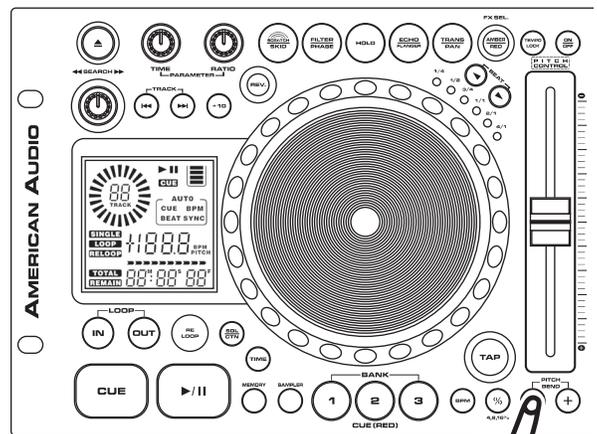

Figure 43
The (+) *PITCH BEND BUTTON* (26) will increase track playback speed and the (-) *PITCH BEND BUTTON* (26) will decrease track playback speed. The extent to which the speed changes is proportionate to the amount of time the button is pressed. For example, if the (+) *PITCH BEND BUTTON* (26) is held down continuously as in figure 43, the disc speed will increase and will continue to increase until it reaches a maximum of 100% speed gain. When you release the (+) *PITCH BEND BUTTON* (26) the disc speed will automatically return to its previous set speed.